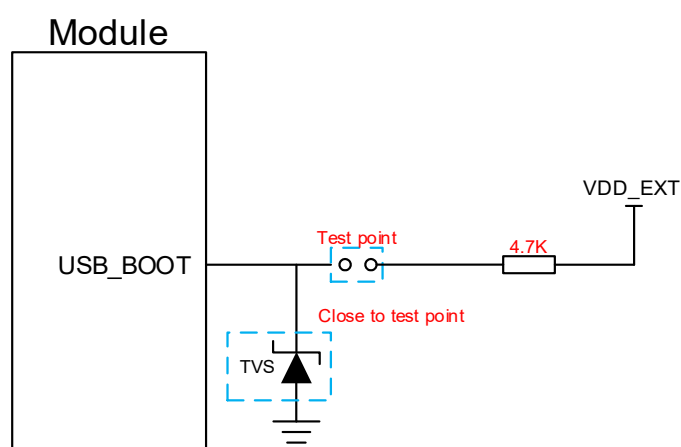

Figure 31: Reference Circuit of USB_BOOT Interface
2. When using MCU to control the module to enter the forced download mode, follow the above timing sequence. It is not recommended to pull up USB_BOOT to 1.8 V before powering up VBAT. Connecting the test points as shown in **Figure 31** can manually force the module to enter download mode.